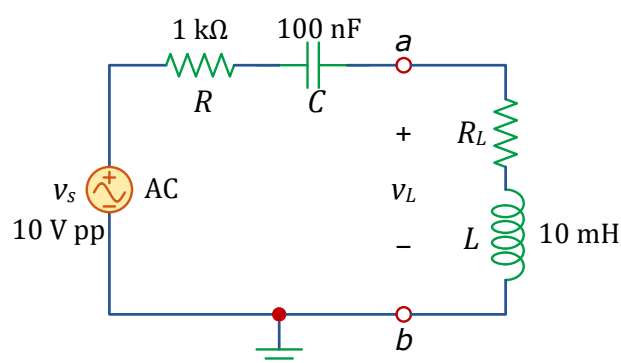

Figure 7.3: AC circuit with inductive load to examine maximum average power transfer.
- 6 Consider the AC circuit shown in Figure 7.3, where an inductive load is connected to the output terminals a and b . The inductive load has an unknown load resistance R_L and inductance of $L = 10$ mH. Calculate the value of R_L and the source frequency **in Hertz** such that the circuit can deliver **maximum average power** to the inductive load. Then calculate the maximum average power P_{max} .
- 7** Build the AC circuit of Figure 7.3 and set the signal generator v_s to **10 V peak-to-peak sinusoidal** input voltage. Use the frequency and load resistance R_L that you obtained in the previous question. Find the average power consumed by the inductive load using a suitable measurement and compare it with your calculated maximum average power in the previous question. Explain any difference between these values.